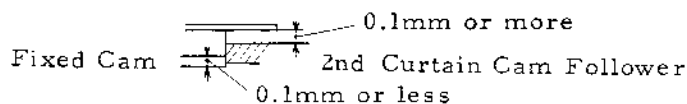

Fig. 24
- 2) The heights of the Follower and fixed Cam are as shown in Fig. 24. For adjustment, use Washers (X32-502320 to 1) x n, (X98-020206), and chose a suitable Lever. Fig. 24